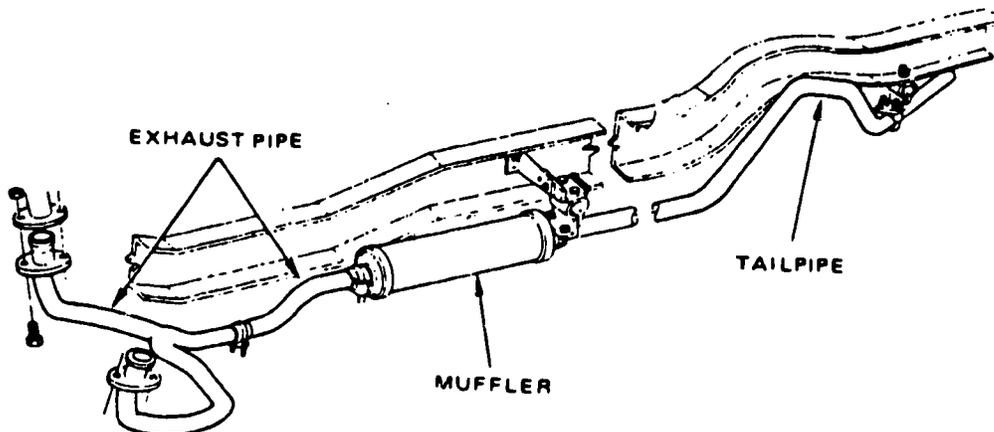

Fig 4-1. Typical exhaust system.
The internal combustion engine produces an excessive amount of noise and poisonous gas. Therefore, an exhaust system must be incorporated with the engine to reduce the noise and carry the exhaust gases away from the operator's/passenger's compartment. To do this, the engine (vehicle) must have a manifold, exhaust pipe, catalytic converter (on some vehicles), muffler, and tailpipe (fig 4-1). Exhaust gases contain carbon monoxide (CO) which is a deadly, colorless, odorless gas. When CO enters the operator's/passenger's compartment of a vehicle, it will cause headaches, drowsiness, nausea, and, in increased quantities, unconsciousness or death. These symptoms make the exhaust system an important component which must be in serviceable condition at all times.